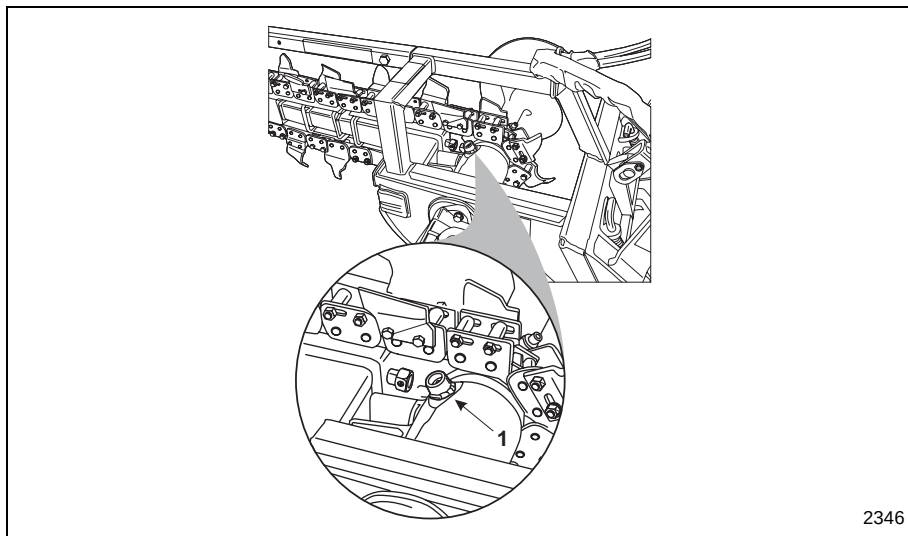

Figure 15 Trencher Grease Zerk
1. Make sure to clean out the protective cup around the grease zerk and the grease zerk (Item 1, **Figure 15**) before lubricating.